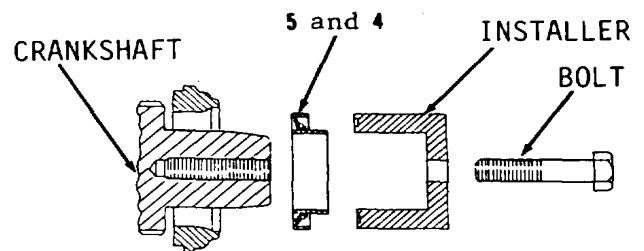

Figure 13-64.
13. Apply quick cure primer to outside diameter of crankshaft and inside diameter of items 5 and 4 as an assembly (Figure 13-64).
14. Apply retaining compound to outside diameter of crankshaft and items 5 and 4 as an assembly.